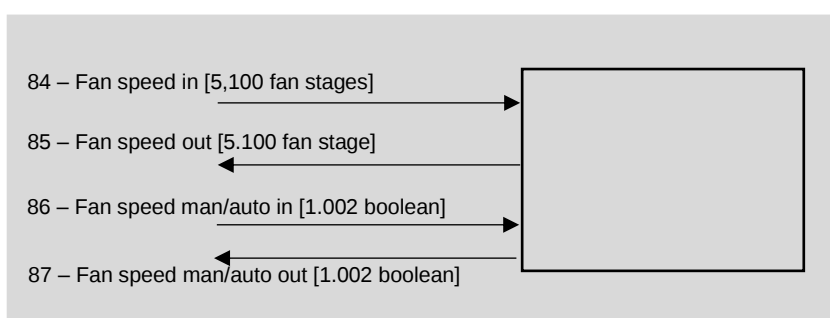

Figure 12 - Remote fan speed adjustment
The communication objects shown in the block diagram of Figure 12 allow the actual fan speed to be monitored; this is set automatically (A) by the temperature controller or manually on-site by the user via the touch buttons. The communication objects (hereinafter ‘O.C.’) also allow the same adjustments to be made remotely, for example via a system supervisor.